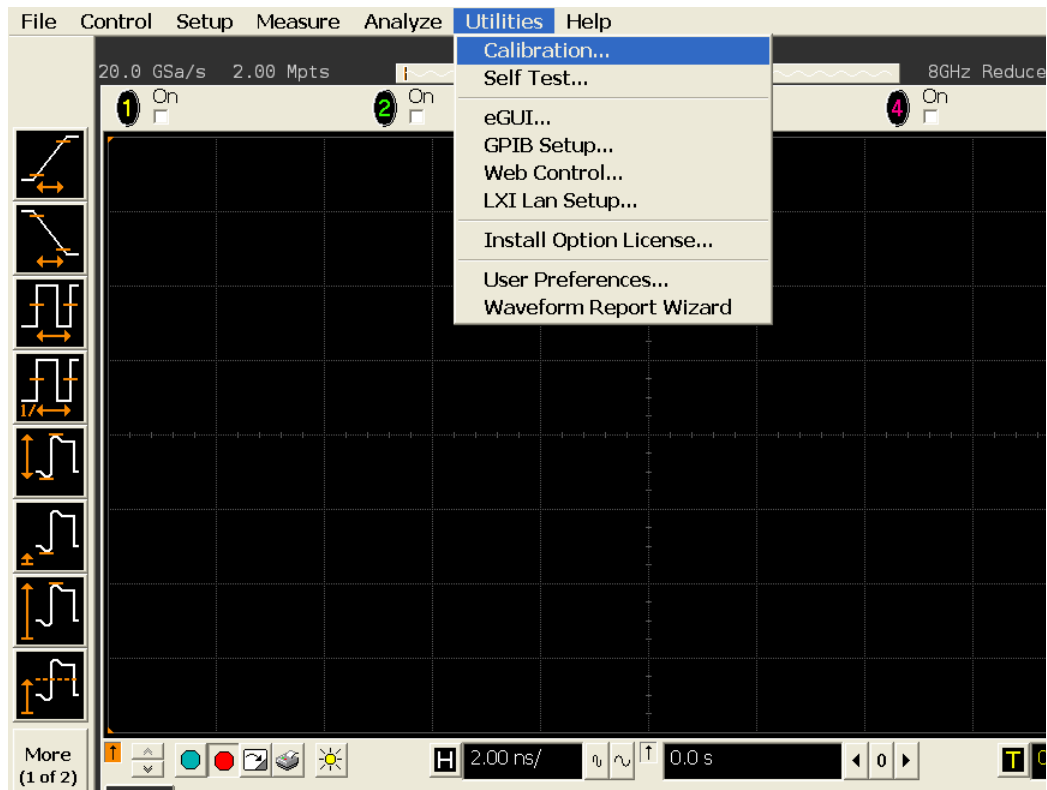

Figure 54 Accessing the Calibration Menu
- 3 Referring to Figure 54 below, perform the following steps: